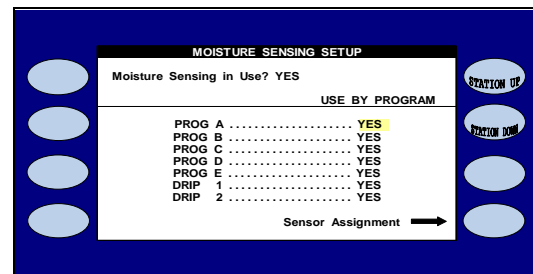

Figure 5
6. Press the **PLUS** or **MINUS** keys. (Figure 5).